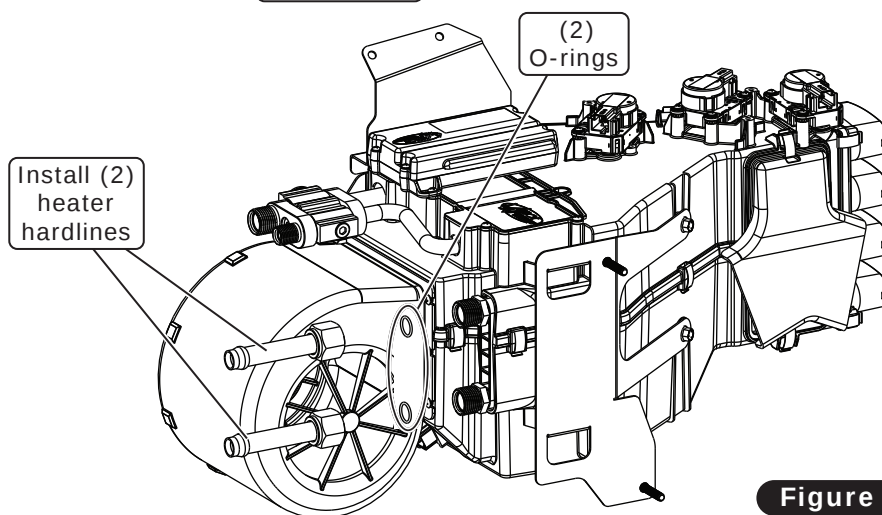

Figure 3
3. Install grommets onto the kick panel cover as shown in Figure 3, below.
10. Install the (2) heater hardlines with properly lubricated O-rings (See Lubricating O-rings, Page 13 and Figure 3, below). **NOTE: Be careful when removing the caps from the sub case, sub case is shipped under pressure.**